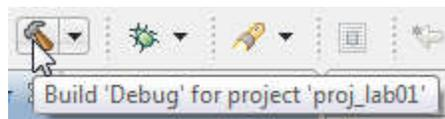

Figure 15: The CCS “Build” hammer icon
3. In the “CCS Edit” view, select the “Build” hammer to build the project as shown in **Figure 15**; alternatively, right-mouse click the project in the Project Explorer pane and select “Project ->Build Project.” To build all the projects in the workspace, select “Project -> Build All.”